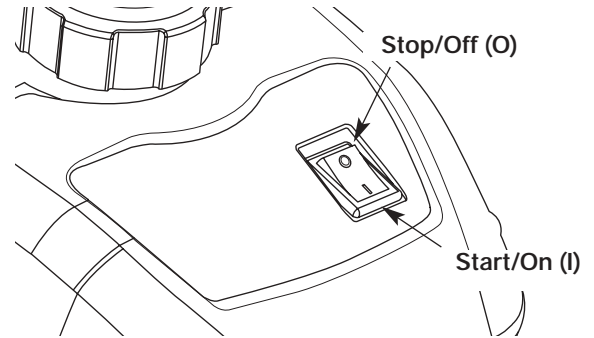

Fig. 6
2. Make sure the On/Off Stop Control in the ON (I) position (Fig. 6).
2. Put the On/Off Stop Control in the OFF (O) position (Fig. 6).